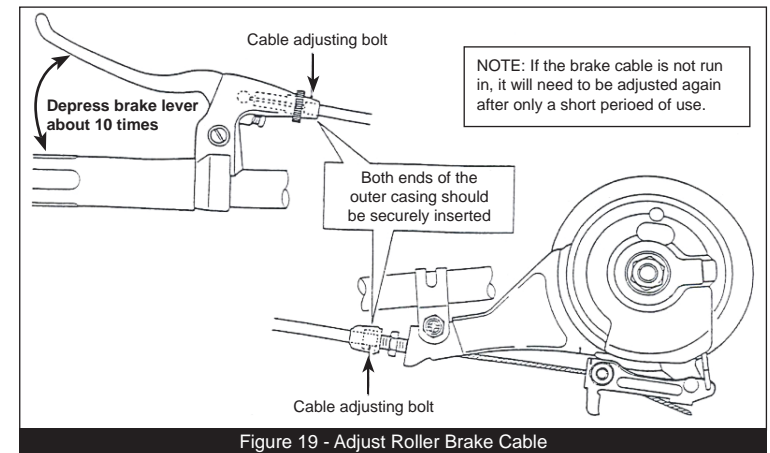

Figure 19 - Adjust Roller Brake Cable
1) check that the wheel does not easily turn while the brake cable is being pulled; 2) depress the brake lever about 10 times as far as the grip in order to run in the brake cable; 3) check that both ends of the outer casing are securely inserted into the cable adjusting bolts of both the brake lever and brake arm. (**Figure 19**)